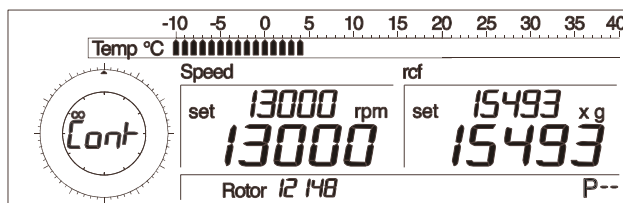

Fig. 5.12: Continuous run display
- Starting with the time setting 11:59, turn the knob clockwise to the next setting. The message “cont” and the symbol “∞” will be displayed (Fig. 5.12).